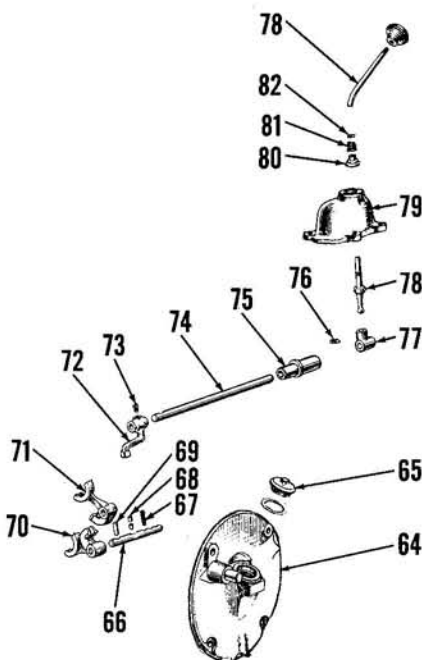

Fig. 126—Exploded view of main transmission shift mechanism. Refer to Fig. 127 for view showing inner side of plate (64).
**166. MAIN TRANSMISSION SHIFT MECHANISM.** Refer to exploded view of the main transmission shifter mechanism in Fig. 126.
To remove the connector (77—Fig. 126), shift rail (74) or bearing (75), the tractor must first be split between transmission housing and rear axle
Fig. 127—View of inside of shift plate (64—Fig. 126). When installing assembly, be sure slot (S) engages selector arm (72—Fig. 126) and that shift forks (70 and 71) engage flanges (F—Figs. 125 and 129). Refer to Fig. 126 for legend.
Disconnect clutch pedal to balance lever rod at balance lever, then unbolt and remove main transmission shifter plate assembly (see Fig. 126) complete with balance lever and release rod. Place primary gearbox lever in lower position on model with single